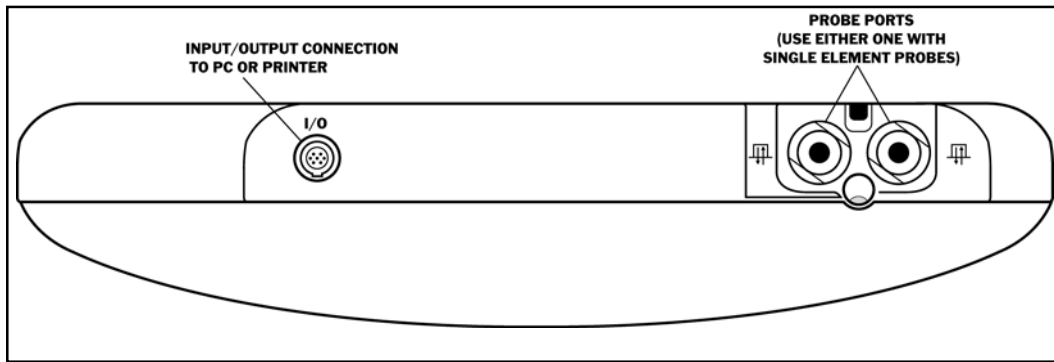

FIGURE 1-2—The instrument's connectors are shown here.
Step 2: Select a compatible probe and plug its cable into the top of the gauge as shown in Figure 1-2. Note that if you install a single-element style probe, you won't be able to select the dual measurement mode as specified in *Step 3*. (Refer to Chapter 7 for probe selection.)